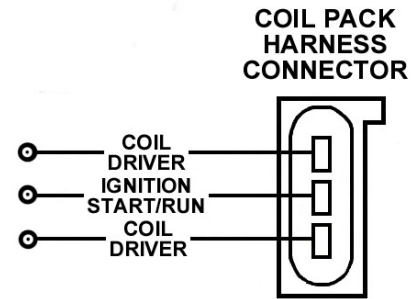

Figure 13—Coil Pack Harness—(1996-1999)
5. **COIL PACK**—The white wire of the RPM window switch needs to be connected to the negative side (coil driver) of one ignition coil. Choose the coil that best fits your wiring harness layout. Each ignition coil pack is supplied with a three-wire harness. Select one of the coil driver wires. This will be one of the outer wires of each harness. The positive ignition coil wire will be the middle wire on the coil pack. **Do not use this wire.** Use one of the T-tap terminals included and connect it to the negative coil wire. See Figure 13.